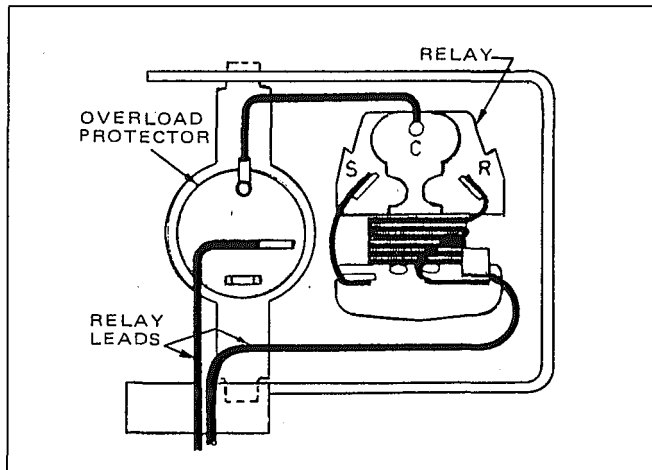
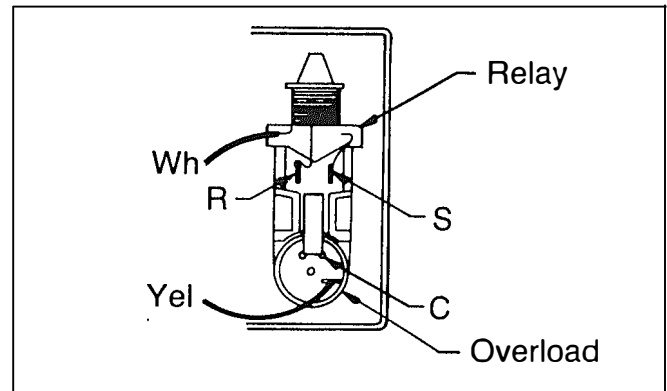

Figure C1 - Separate Mount, Magnetic Relay & Overload
Figure C2 - Combination Mount, Magnetic Relay & Overload
Two types of magnetic relays and thermal-disc overloads are used. Figure C1 shows separately mounted relay and overload, while Figure C2 shows a combination relay and overload mounting bracket. The two types differ only in mounting. They are electrically and functionally the same.
The starting relays are the push-on type that mount on the Start (S) and Run (R) terminals of the compressor, as shown in Figures C1 and C2. The overload protector is connected to the Common (C) terminal of the compressor.
In series with the motor windings is a bi-metallic overload protector, which is held in place on the compressor by either a spring clip or the relay. The overload protector connects to the common (C) terminal on the compressor. See Figures C1 and C2.
To check for an open overload protector, short across its terminals. See Figures C1 and C2. If the compressor starts, replace the overload. If the compressor does not start, look for other trouble (low line voltage during the starting interval, inoperative relay, or inoperative compressor).